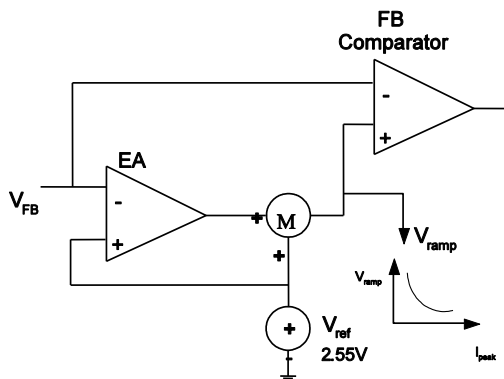

Figure 5: EA and Ramp Compensation
To achieve a better load regulation, the MP9488 employs an error amplifier (EA) compensation function (see Figure 5). After a 6 μ s delay from the MOSFET turning off, the MP9488 samples the feedback voltage. With EA compensation, the reference voltage (2.55V) can be regulated with the load. This can achieve a better regulation of the power module.
To maintain a precise output voltage, an internal ramp compensation circuit is added. An exponential voltage sinking source is added to pull down the reference voltage of the feedback comparator (see Figure 5). The ramp compensation is related to the load conditions. In full-load condition, the compensation is about $3\text{mV}/\mu\text{s}$. When the load decreases, the compensation increases exponentially.